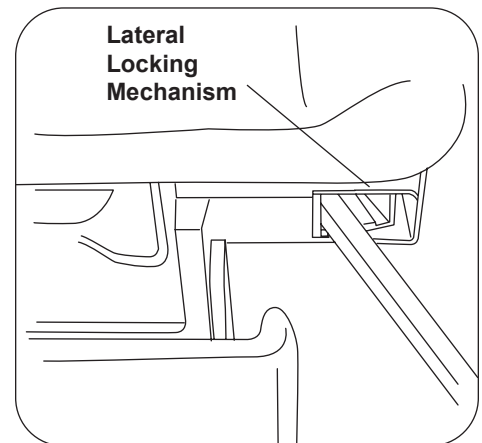

Figure 16. Stirrup Lateral Adjustment
1. Lift end of stirrup and then rotate outward to desired position (Figure 16).